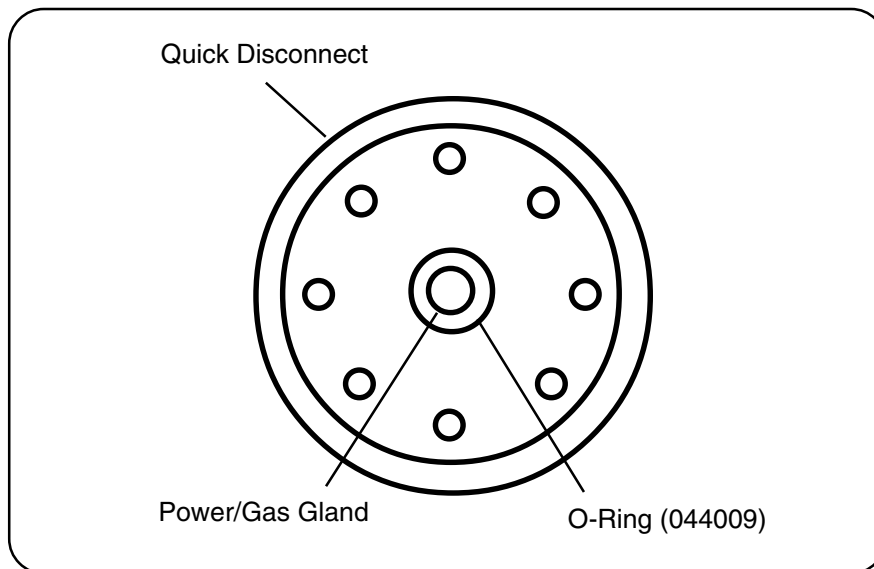

Figure 3-20 Quick Disconnect O-Ring Removal and Replacement
The quick disconnect O-ring on the PAC125 torch leads provides a tight seal between the quick disconnect plug and the power supply receptacle. This O-ring prevents plasma gas from leaking during cutting. To remove and replace the O-ring in the event of damage or wear, proceed as follows and refer to Figure 3-20.
1. Turn the Powermax900 power switch OFF (0).
4. Remove the O-ring from the quick disconnect as shown in Figure 3-20 using needle nose pliers, tweezers, etc.